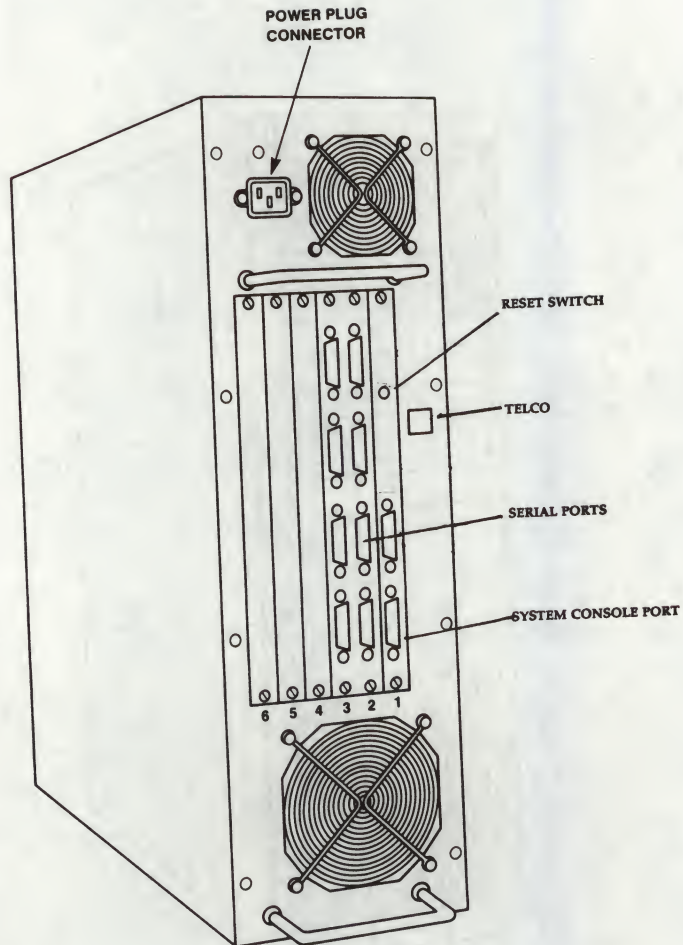
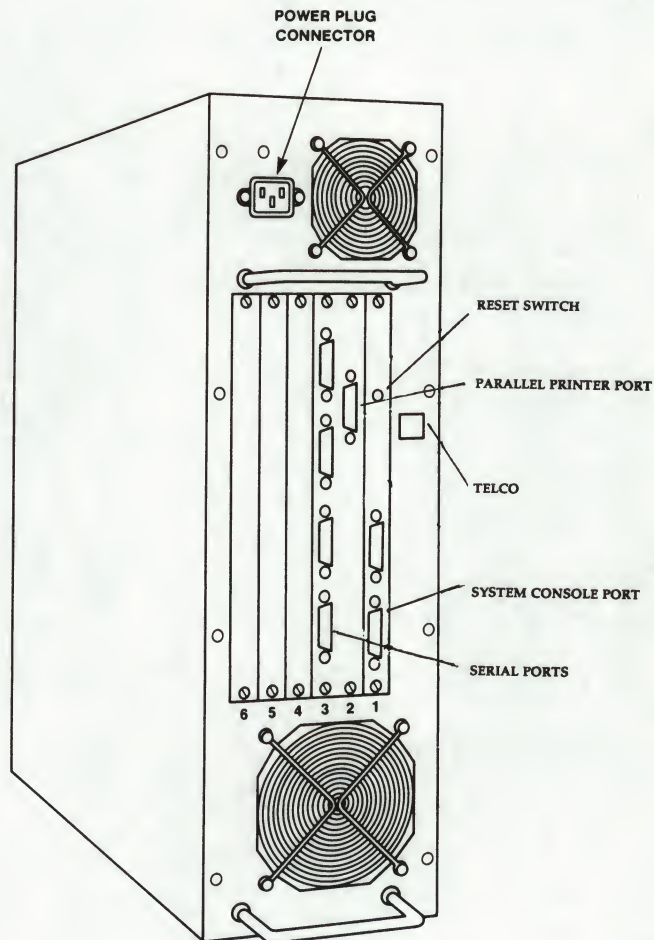

FIGURE 2-2. Model 2334 Configured With MVME332XT
FIGURE 2-3. Model 2334 Configured With MVME335
The back panel of a Model 2334 is shown in Figures 2-2 and 2-3. The number of connectors on an individual system varies, depending on the configuration. The Model 2334 may have the following connectors on the rear of the unit:
- . Up to eight additional RS-232C serial connectors for various combinations of serial terminals, printers, and modems. There may be eight connectors labeled SP1 through SP8, representing the eight ports on the MVME332XT module, as shown in Figure 2-2. In a configuration with an MVME335 module, there are four serial connectors and one parallel printer connector, as shown in Figure 2-3.
2 The Model 2334 can have 6 to 10 RS-232C connectors to connect combinations of serial terminals, printers, (one parallel port), and/or modems. To connect these peripherals, use the procedure described for the system console in section 2.3.1, but connect the cable to a port labeled SPx on the rear panel, where x is a number from 1 through 8 (refer to Figure 2-2 ).